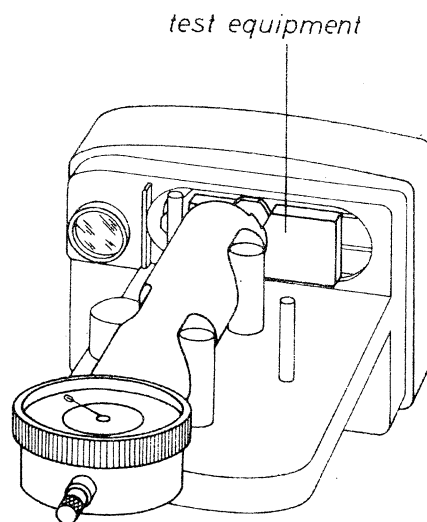

Fig. 36.1
- 3.2 Turn the intermediate wheel counter-clockwise until the claw disappears in the claw opening. Place the test equipment on to the plate as shown in Fig. 36.1 and press against the film canal so that the point of the claw presses against the right-angled feeler face of the test equipment. Turn the intermediate wheel counter-clockwise until the claw protrudes at least 0.6 mm but not more than 0.8 mm from the claw opening. Turn the intermediate wheel clockwise until the claw retreats at least 0.5 mm but at the most 0.7 mm.